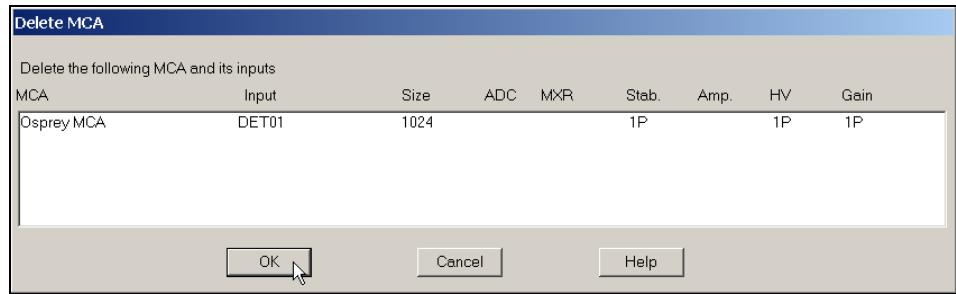

Figure 4 The Delete MCA Dialog
2. Select **Edit | Delete MCA** to open the Delete MCA dialog box (Figure 4). Click on OK or click twice on the entry in the table to remove the entry.